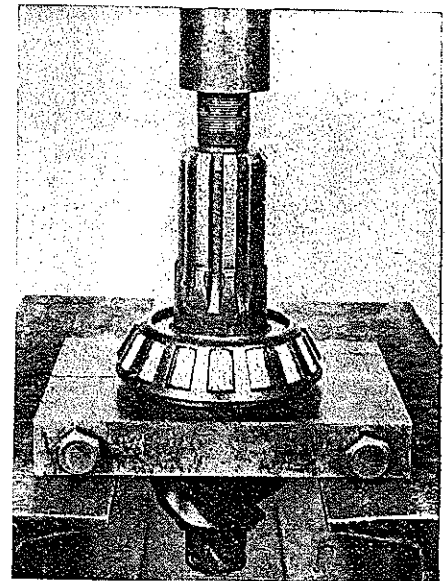

Fig. 165 Remove pinion shaft bearings with bearing puller
4. Remove rear thrust bearing, Fig. 165, and radial bearing with bearing puller if necessary to replace.